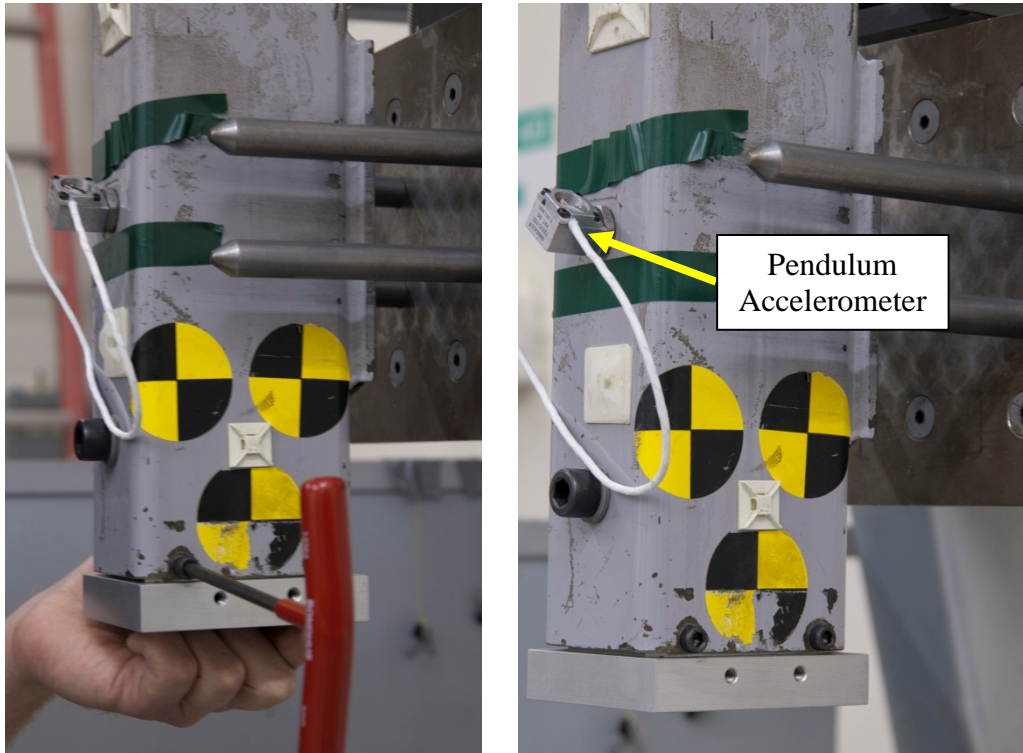
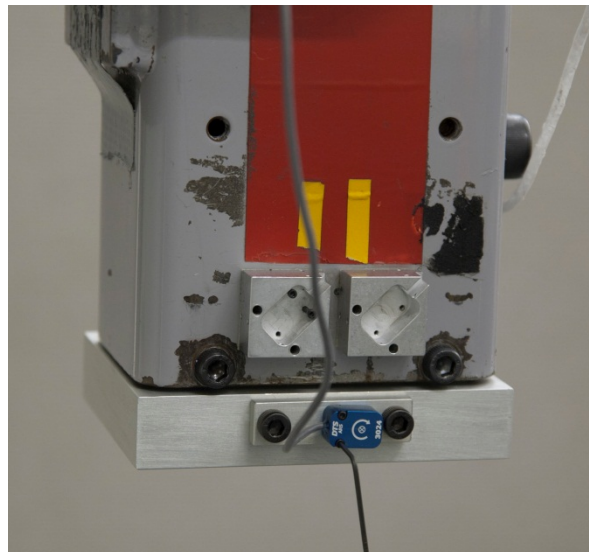

Figure 150. Install pendulum interface plate and pendulum accelerometer
Figure 151. Install ARS to pendulum
- Install the Angular Rate Sensor (ARS)⁴⁶ to its mount using two M1.4 x 8 SHCS so that it measures rotational velocity about the X axis. Then install this assembly to the front of the headform (Figure 150 and Figure 151).